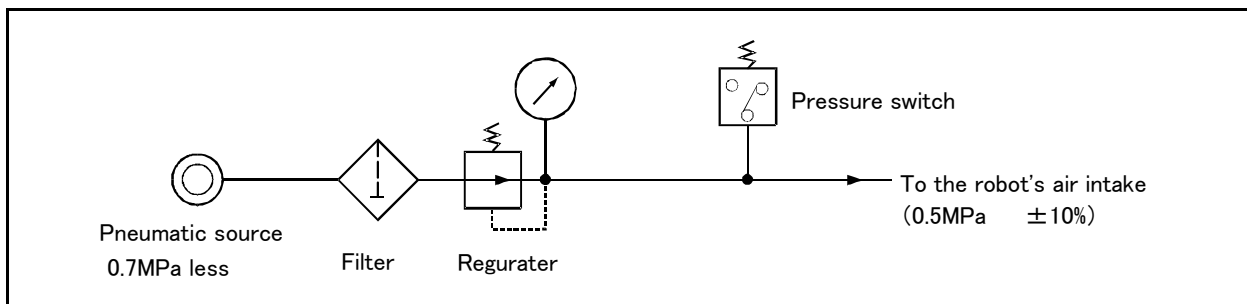

Fig.2-24 : Air supply circuit example for the hand
Fig. 2-24 shows an example of pneumatic supply circuitry for the hand.
- (1) Place diodes parallel to the solenoid coil.
- (2) When the factory pneumatic pressure drops, as a result of the hand clamp strength weakening, there can be damage to the work. To prevent it, install a pressure switch to the source of the air as shown in Fig. 2-24 and use the circuit described so that the robot stops when pressure drops. Use a hand with a spring-pressure clamp, or a mechanical lock-type hand, that can be used in cases where the pressure switch becomes damaged.
- (3) The optional hand and solenoid valve are of an oilless type. If they are used, don't use any lubricator.
- (4) Supply clean air to the vacuum generation valve when you use clean type robot.